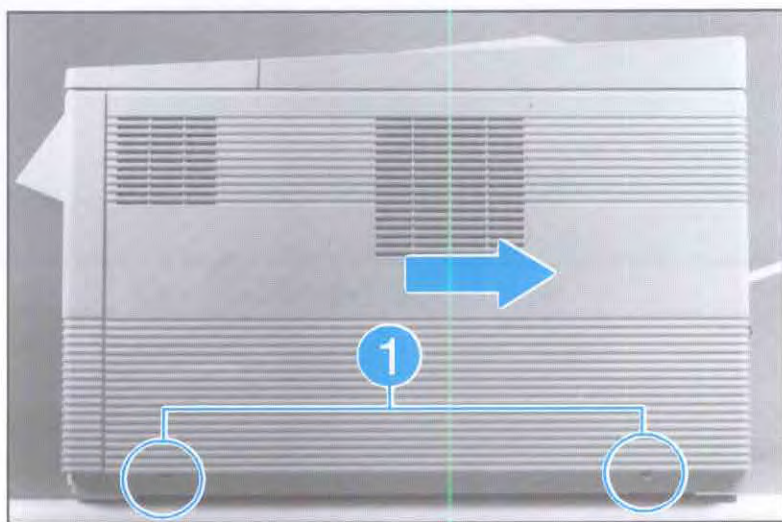

Figure 6-2. Right Side Cover
1. Remove the (2) screws securing the Right Side Cover (see Figure 6-2, callout 1).
2. Remove the Right Side Cover (see Figure 6-2).
1. Remove the Right Side Cover (see Figure 6-2).